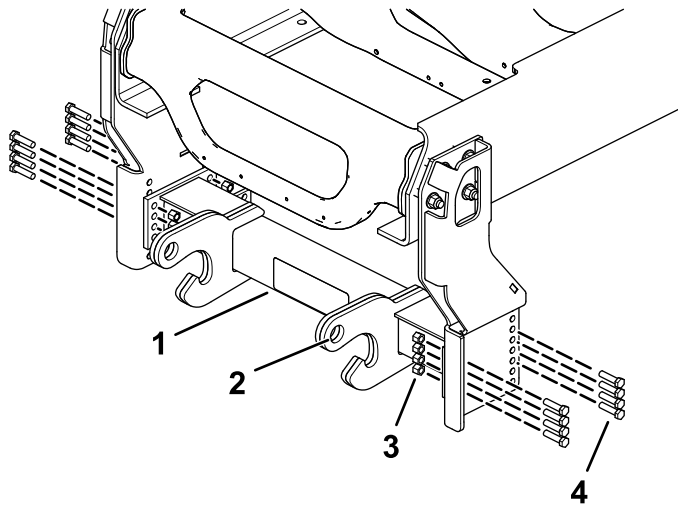

Figure 2
- Position the pushbeam so that the distance from the ground to the center of the attachment pin holes on the pushbeam is 42 cm (16-1/2 inches) as shown in Figure 2.
- Loosely secure the pushbeam assembly to the side plates using 16 bolts (1/2 x 2 inches) and 16 nuts (1/2 inch) as shown in Figure 2.